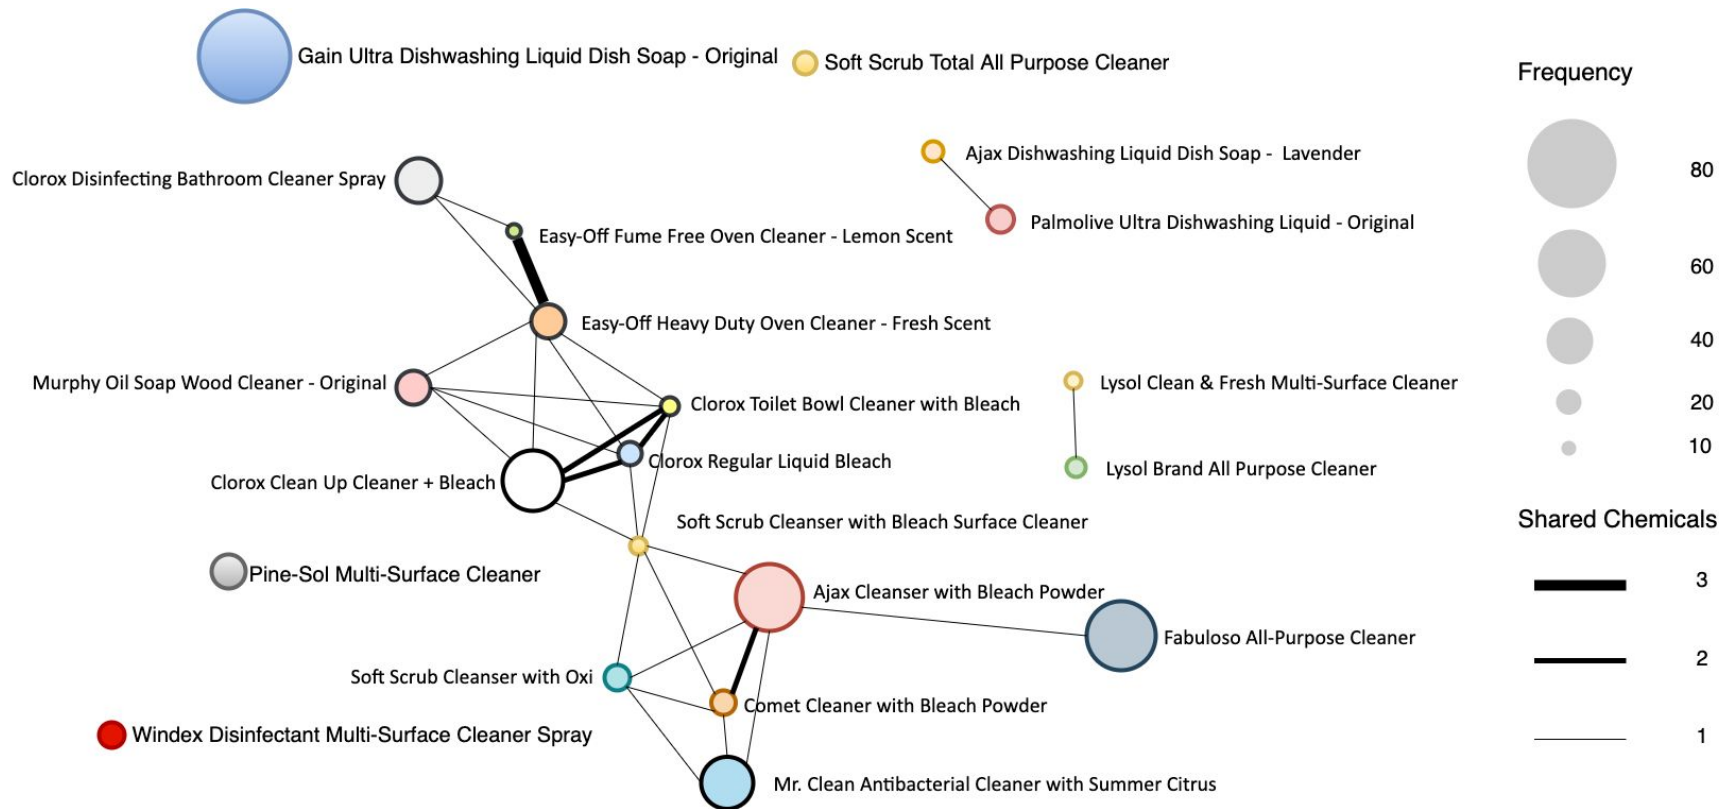

Figure 2B. The Backbone of the Chemical Network
(A) Chemical pyramids for cleaning products used in the kitchen. The flavor pyramid shows the six most “authentic” single use cleaning products and ingredient pairs, selected by the largest frequency. The size of the nodes reflects the prevalence of the cleaning products in this area. Each color represents the category of the cleaning product (see Fig. 2B for the color) and link thickness indicates the number of shared chemical ingredients. No link indicates that there is no shared chemical ingredient between the pairs.
(B) Chemical pyramids for cleaning products used in the bathroom. The flavor pyramid shows the six most “authentic” single use cleaning products and ingredient pairs, selected by the largest frequency. The size of the nodes reflects the prevalence of the cleaning products in this area. Each color represents the category of the cleaning product (see Fig. 2B for the color) and link thickness indicates the number of shared chemical ingredients. No link indicates that there is no shared chemical ingredient between the pairs.